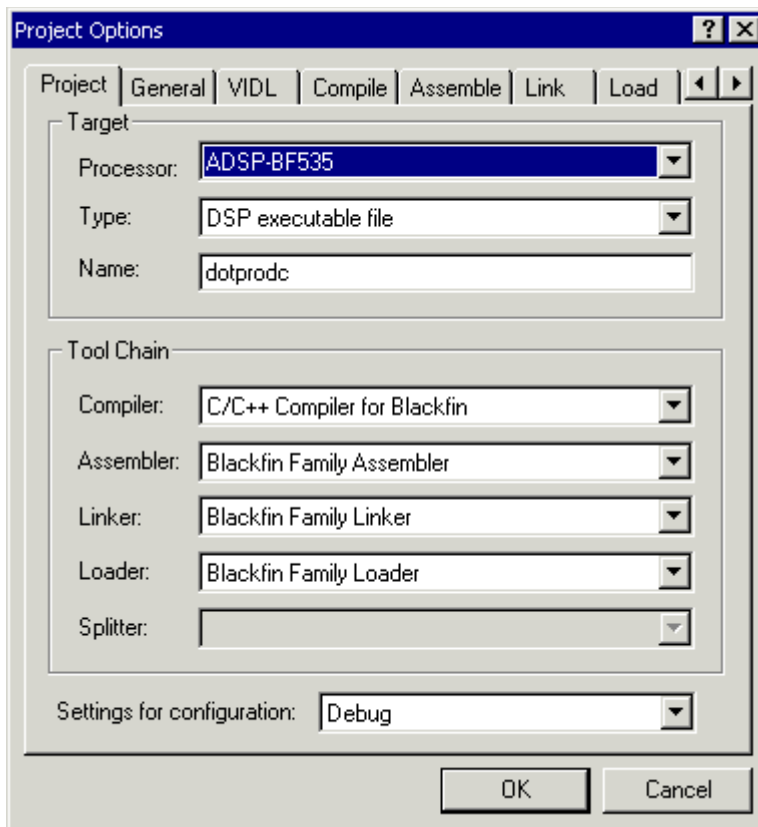

Figure 2-11. Project Options Dialog Box: Project Page
The **Project Options** dialog box (Figure 2-11) appears.
6. On the **Project** page (Figure 2-11 on page 2-17), specify the values shown in Table 2-3.